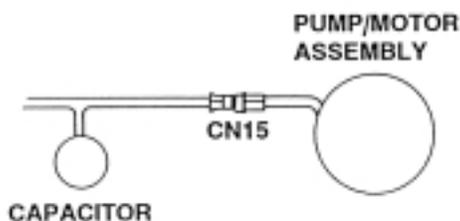

Figure 5-9.
2. Disconnect the 3 pin connector CN15 at the motor. Leave all other connectors connected. See figure 5-9.